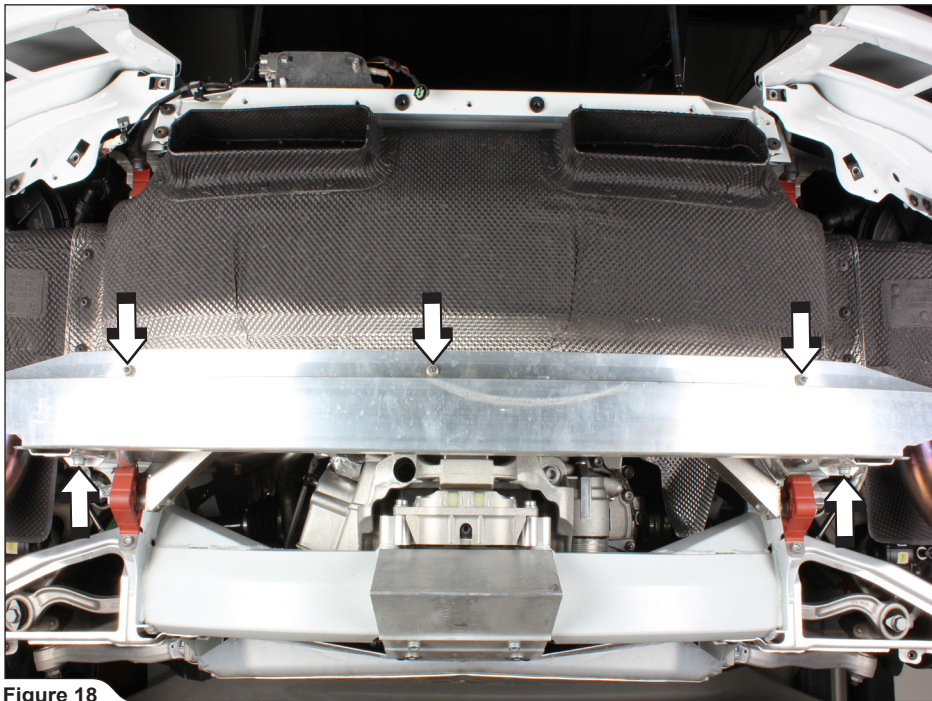

Figure 18
12. Unscrew the marked nuts and bolts and carefully remove the impact absorber (**Figure 18**).